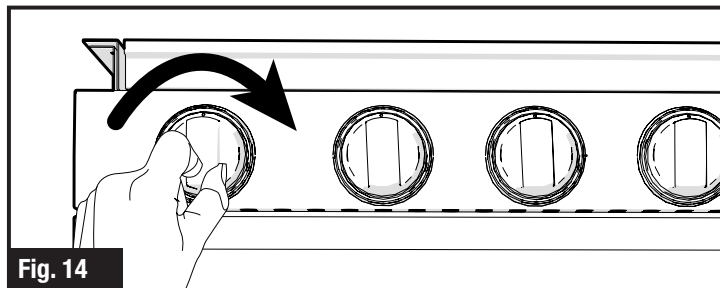

Fig. 14
3. Turn the ignition knob clockwise repeatedly until the burner is lit. (Fig. 14)